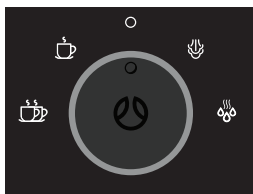

Fig. 4
9. Rotate the Dynamic Control Dial back to the Standby position to stop running the Hot Water function (see Figure 4).